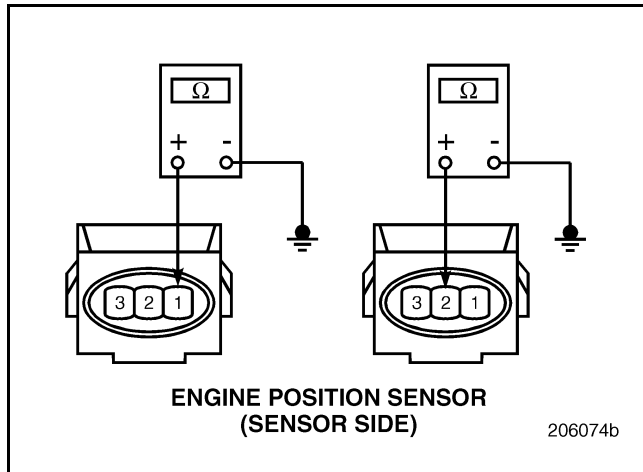

Figure 393
2. Disconnect the Engine Position (EP) Sensor connector.
3. Measure the resistance between sensor pin 1 and a good ground and between sensor pin 2 and a good ground (see Figure 393).